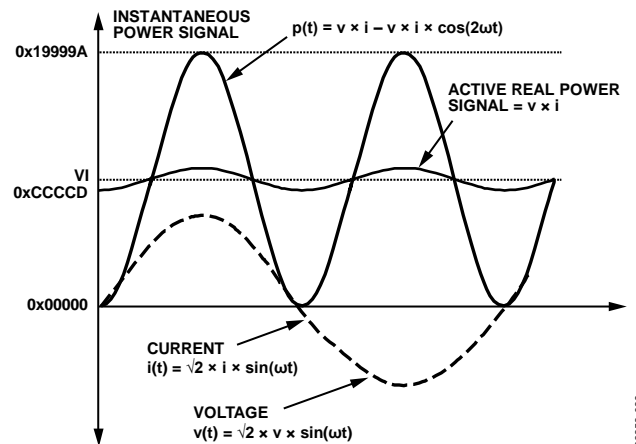

Figure 64. Active Power Calculation
Note that the active power is equal to the dc component of the instantaneous power signal $p(t)$ in Equation 11, that is, VI . This is the relationship used to calculate active power in the ADE7116/ADE7166/ADE7169/ADE7566/ADE7569. The instantaneous power signal $p(t)$ is generated by multiplying the current and voltage signals. The dc component of the instantaneous power signal is then extracted by LPF2 (low-pass filter) to obtain the active power information. This process is illustrated in Figure 64.
The ADE7116/ADE7166/ADE7169/ADE7566/ADE7569 also incorporate an active power offset register (WATTOS[15:0], Address 0x20). It is a signed, twos complement, 16-bit register that can be used to remove offsets in the active power calculation (see Figure 64). An offset can exist in the power calculation due to crosstalk between channels on the PCB or in the IC itself. The offset calibration allows the contents of the active power register to be maintained at 0 when no power is being consumed.
As mentioned in the Active Energy Calculation section, the discrete time sample period (T) for the accumulation register is 1.22 μs (5/MCLK). With full-scale sinusoidal signals on the analog inputs and the WGAIN register (Address 0x1D) set to 0x000, the average word value from each LPF2 is 0xCCCCD (see Figure 64). The maximum positive value that can be stored in the internal 49-bit register is 2⁴⁸ (or 0xFFFF,FFF,FFF) before it overflows. The integration time under these conditions when WDIV = 0 is calculated in the following equation: